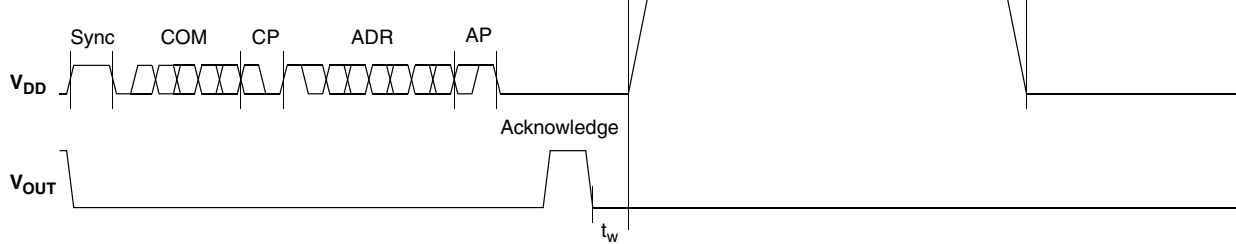

Fig. 5-4: Telegram for coding the EEPROM programming
- Programming the EEPROM cells (see Fig. 5-4)